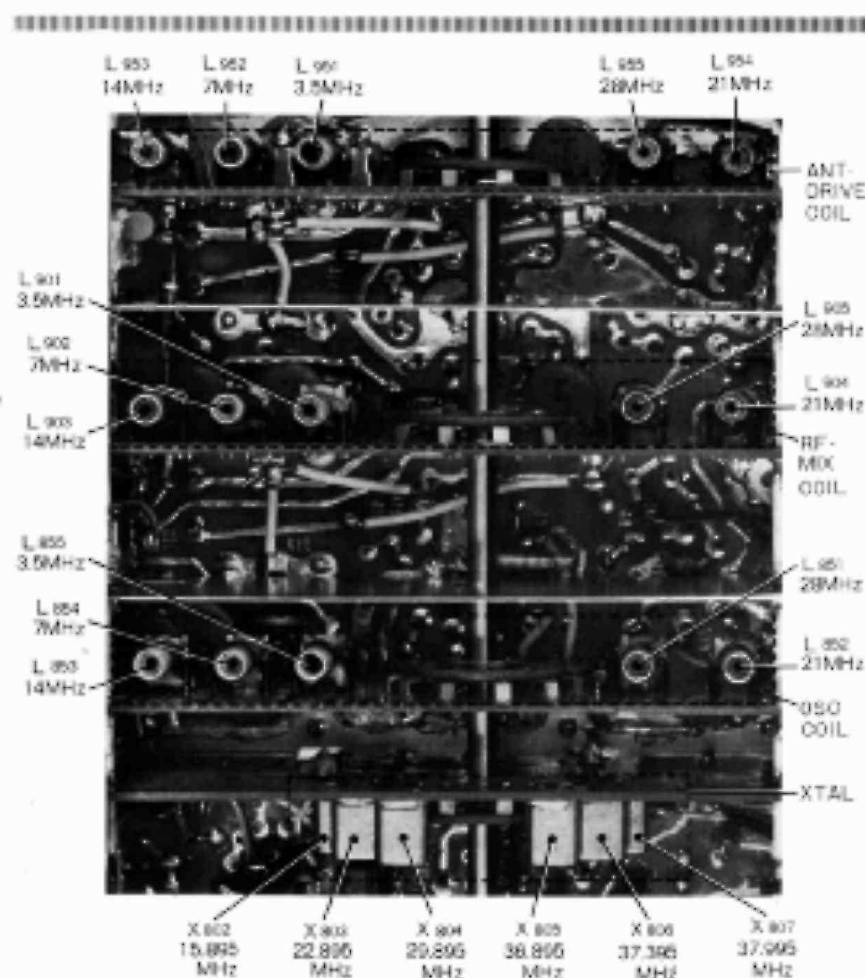

Fig. 23 Coil Pack
(3) Heterodyne crystal oscillator (UC1110J) Refer to Fig. 23.
(4) Drive (RF) tuning circuit (UC1108J and 1109J) Refer to Fig. 23.